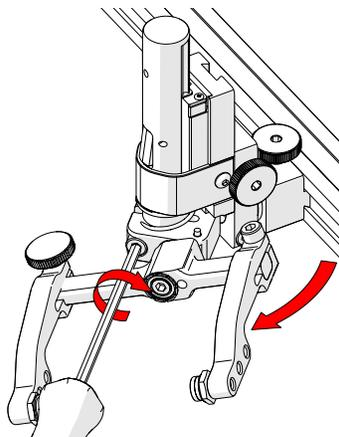

Fig. 134 - Rotate and tighten
3. Tighten the transverse adjustment screw (*Fig. 134*).